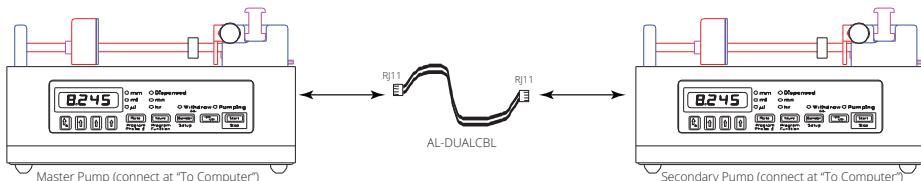

Fig. 2—The Secondary Pump (connect "To Computer") is shown on the left, and the Master Pump (connect "To Computer") is shown on the right.
- (1) Master pump adapter (Fig. 2). (Alternative function: PC RS-232 COM port adapter)